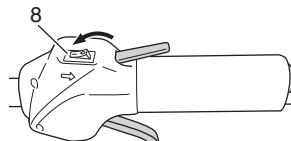

Fig. 8
- (1) Set ignition switch (8) to ON position. (Fig. 8)